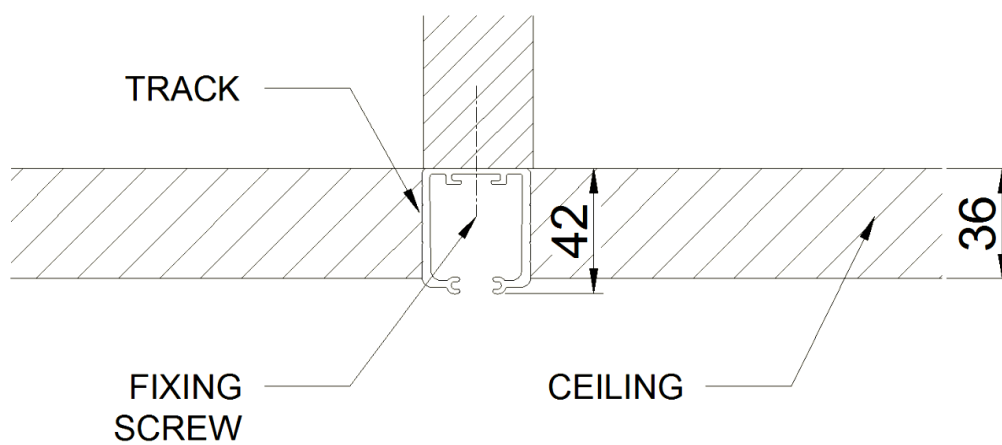

Figure 2
- Install the Top Track partly (Fig.2)